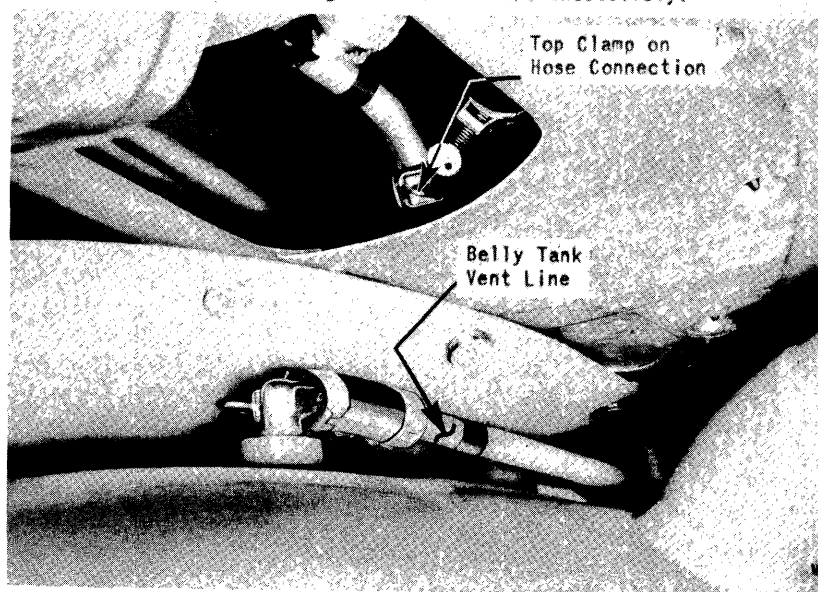

Figure 76 - Access to Belly Tank Fuel Line
(7) Unbutton the oil drain access door on the right side of the exit duct. Working through this access door remove the synthetic rubber cap on the fuel line to the fuel cock and complete the connection between the tank line and fuel cock line with a short length of synthetic rubber hose. Tighten the clamps at either end of the hose connection. Stow the synthetic rubber cap in the tool kit on the duffle bag. On all P-40F airplanes, due to the difference in design of the exit duct, it will be necessary to unbutton the Dzus fasteners on the fuel strainer access fairing and turn the fairing to one side to gain access to the belly tank and fuel cock connection as illustrated in figure 76. Remove the synthetic rubber cap and complete the hose connection as outlined above.
b. Unbutton the oil drain access door on the right side of the exit duct and loosen the two clamp fittings on the synthetic rubber hose connection on the fuel supply line to the fuel cock. Take the synthetic rubber cap from the tool kit and install it on the end of the fuel cock inlet line. On all P-40F airplanes unbutton the fuel strainer access door and swing to one side as illustrated in figure 76. This will provide easy access to complete the steps outlined above.